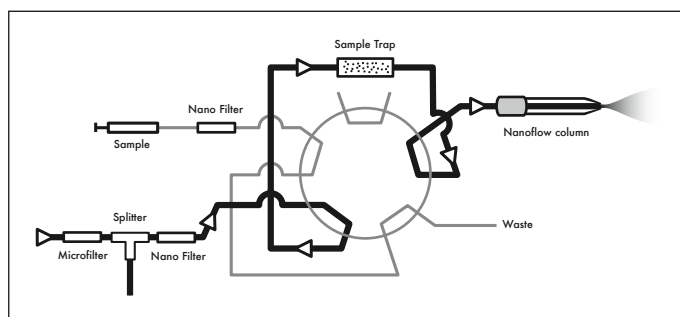

FIGURE 6 Loading sample onto column for analysis (valve in Position 1)
- 3) After running the the mobile phase through the sample trap for several minutes, restore the valve to Position 1 (Figure 6).